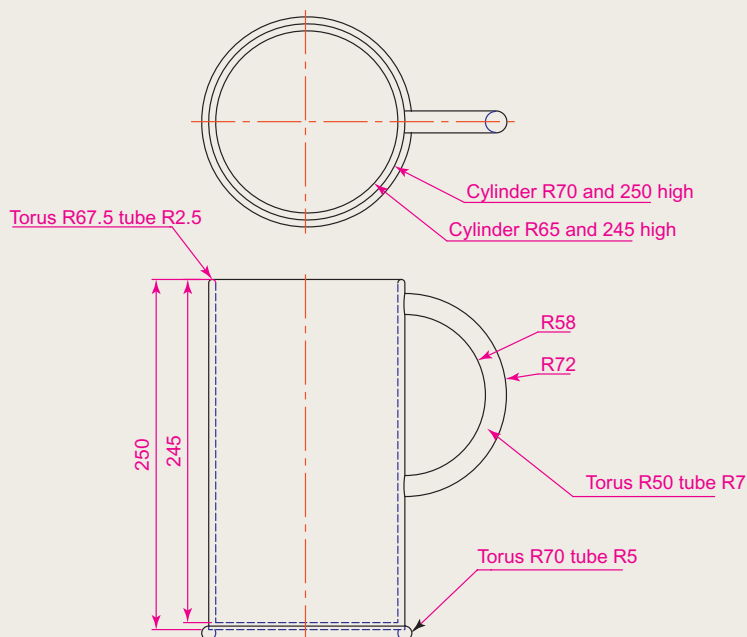

Fig. 14.47 Exercise 4
4. Construct a solid of revolution of the jug shown in the orthographic projection (Fig. 14.47). Construct a handle from an extrusion of a circle along a semicircular path. Union the two parts. Place the 3D model in a suitable isometric view and render.